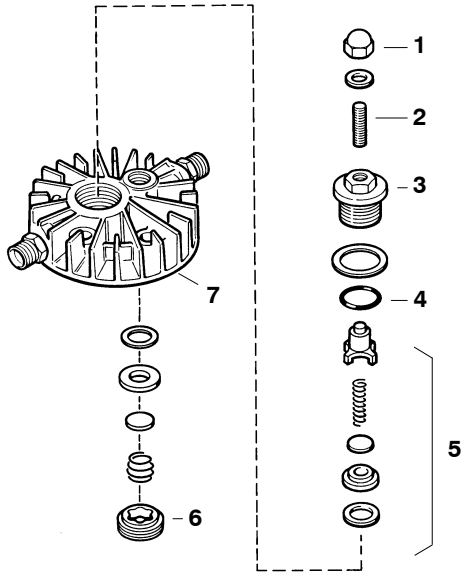
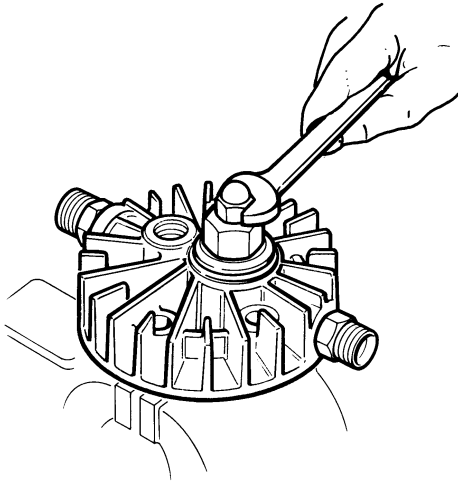

Fig. 15 Valves 3rd stage
Fig. 17 Unscrewing the cap nut
- Unscrew the intake and pressure lines from the cylinder head (7, Fig. 15).
- Unscrew the cap nut (1, Fig. 15) refer to Fig. 17.